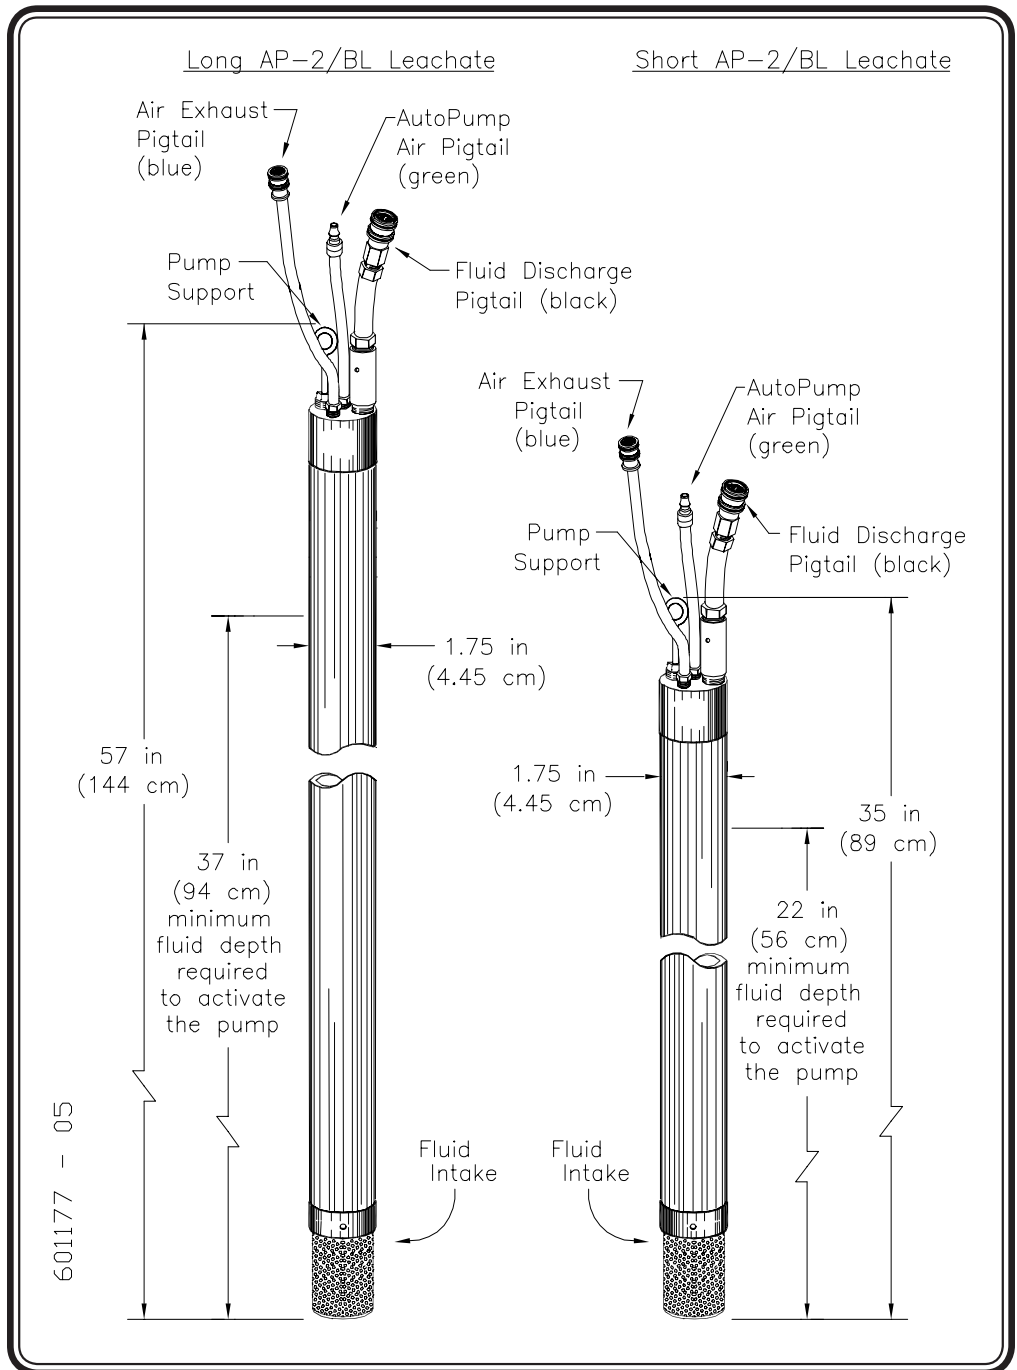

Figure 5 - Long and Short AP-2 Bottom Loading with Leachate Screen
- **Extended Leachate Screens** – (see figure 5)
All lengths (Long and Short) and intake configurations (Bottom-Loading) are available in models for landfill leachate, condensate pumping and dewatering applications. (See Figure 5)